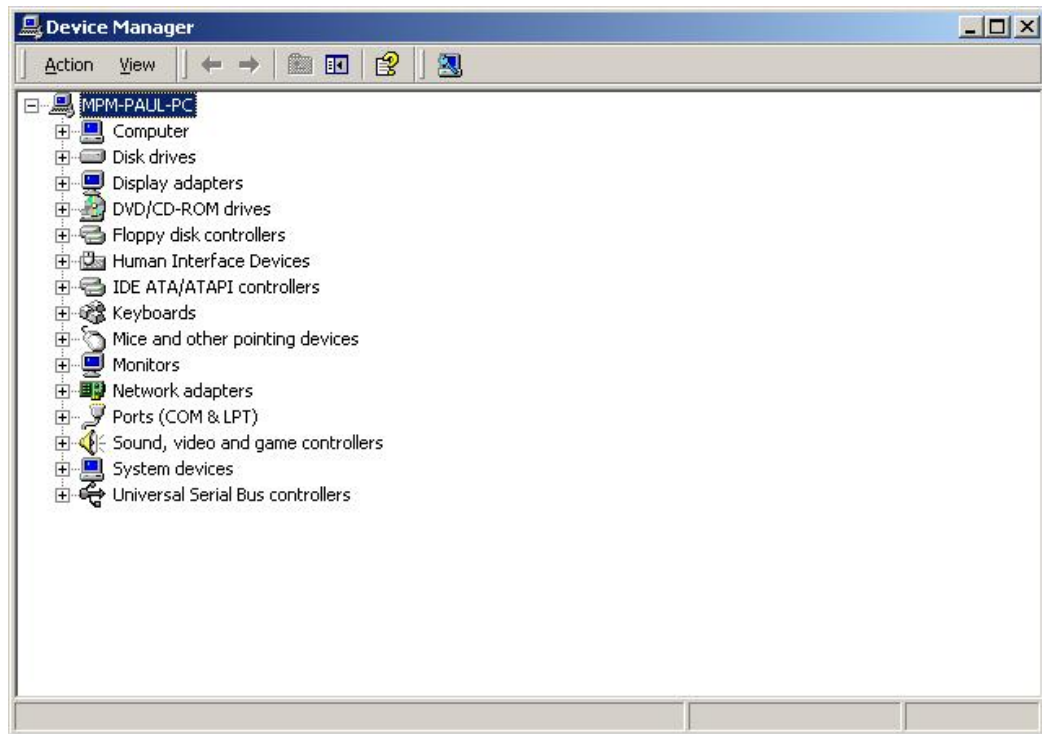

Figure 7-6: Device Manager List
**Step 4:** A list of system hardware devices appears (Figure 7-6).